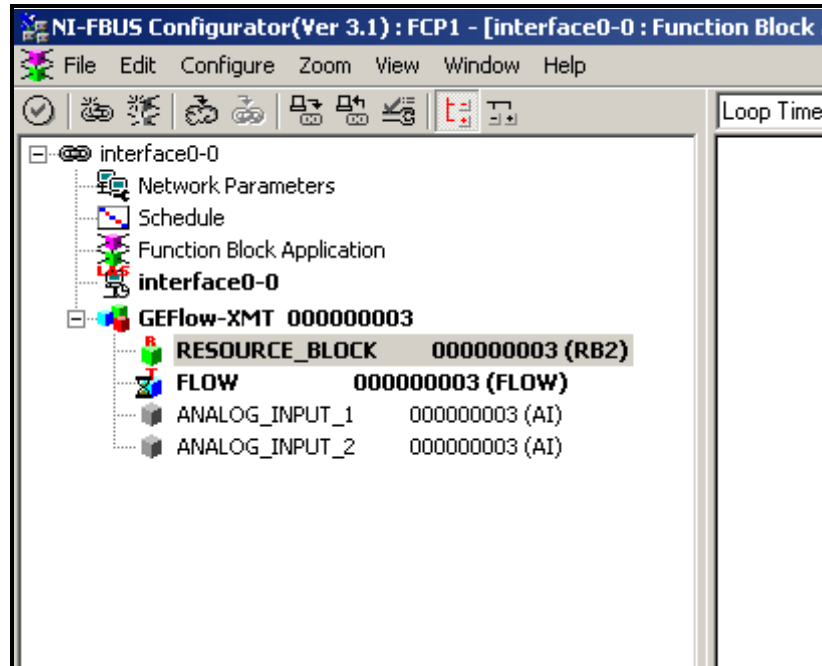

Figure 39: Configuration Utility Setup Example
Figure 39 shows the Configuration Utility with a flowmeter on the network (Panametrics Flow-XMT).
1. Double click on the AI block for which you wish to set the units (ANALOG_INPUT_1 or ANALOG_INPUT_2 in the tree under GEFlow-XMT; see Figure 39 on page 108).
1. Double click on the FLOW transducer block (in the tree under GEFlow-XMT; see Figure 39 on page 108).